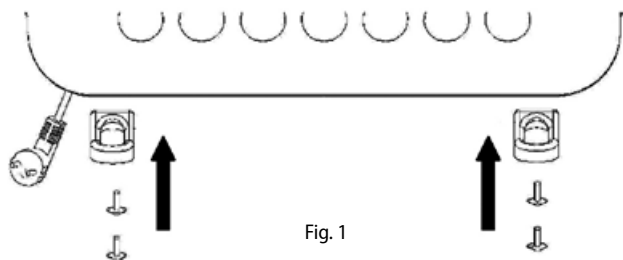

Fig. 1
3. Screw the legs firmly into the body (Fig. 1).